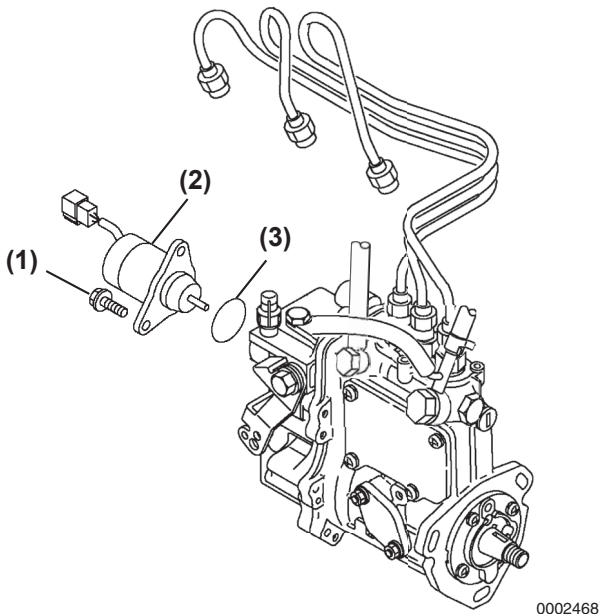

Figure 4-3-22
3. Remove two screws (**Figure 4-3-22, (1)**). Remove the stop solenoid (**Figure 4-3-22, (2)**) and O-ring (**Figure 4-3-22, (3)**).